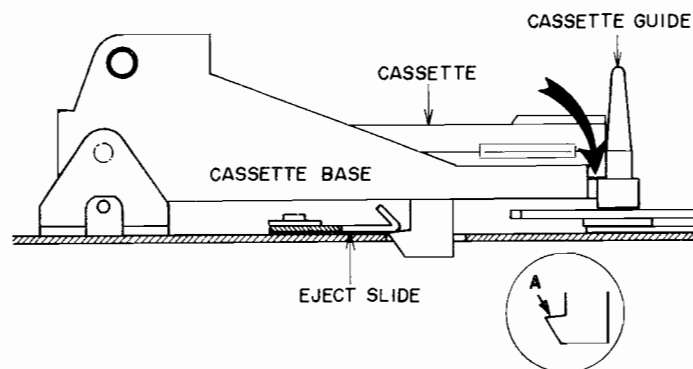

Fig. 15
* If it does not lock, remove uneven edges from cassette base A side surface. (Refer to Fig. 15)